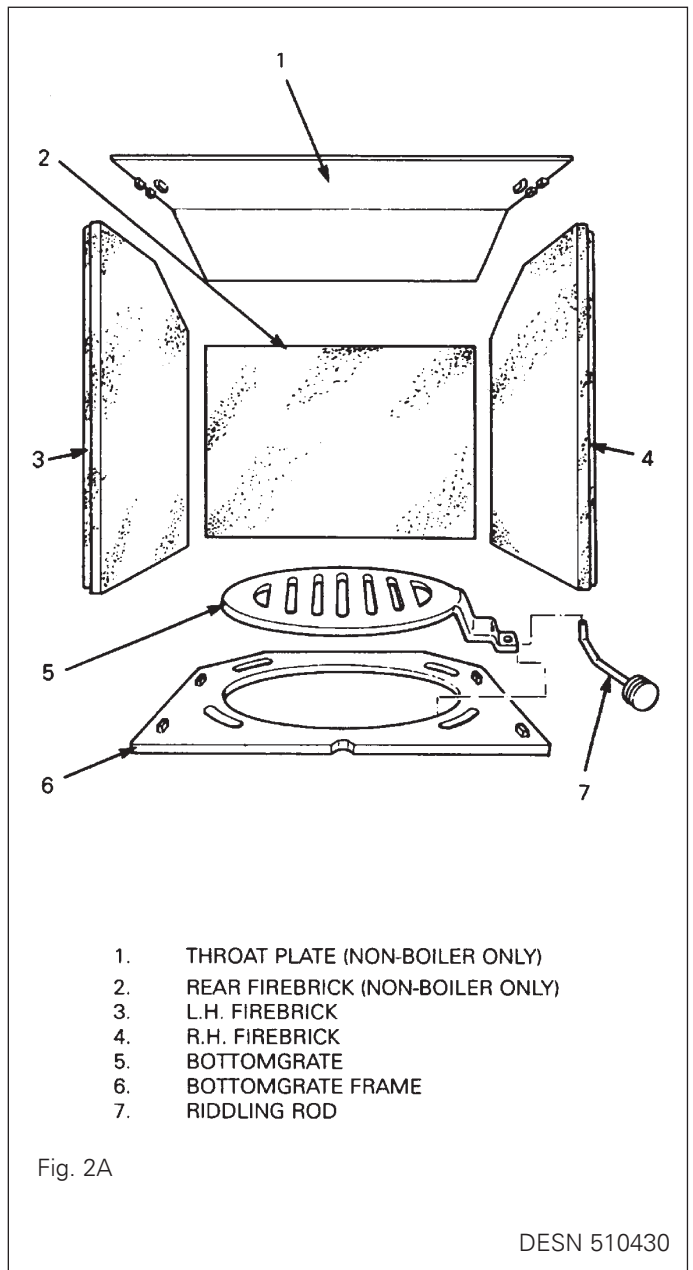

Fig. 2A
NOTE: BLANK RIDDLING HOLE IN FRONT PLATE WITH BOLT AND NUT PROVIDED (See Fig. 2A)
- a. Remove nut and bolt from riddling rod in front plate and front firebar (See Fig. 2A).